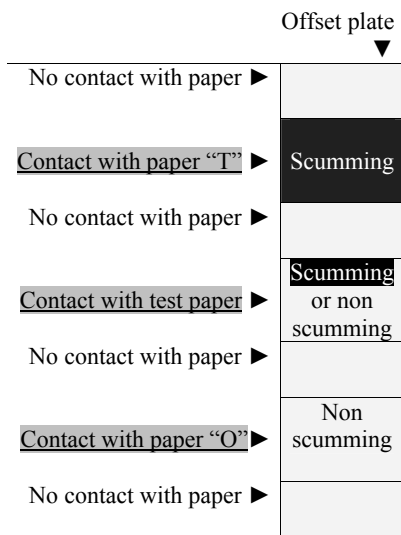

Fig. 2: aluminium strip with result of scumming test
1. Examine the plate strip visually on which parts have accepted ink (see figure 2):